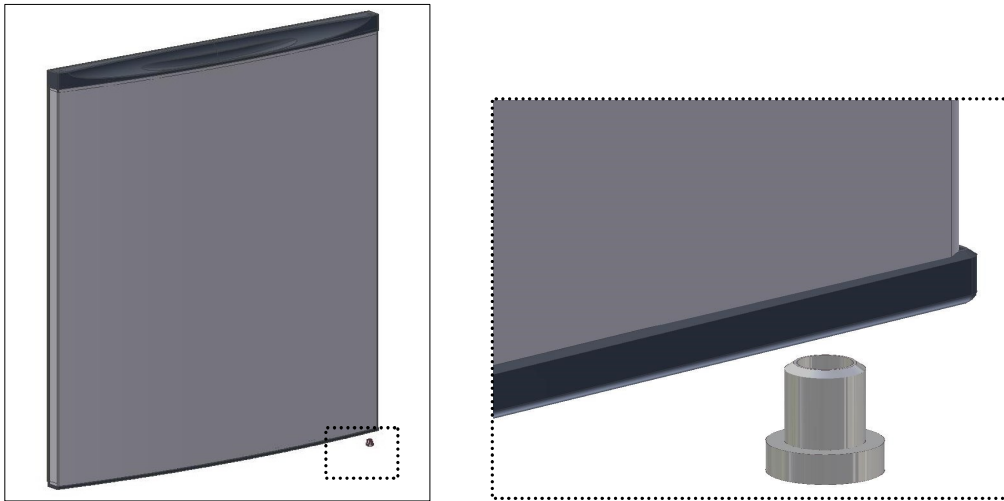

Fig. 8
- Insert the **sleeve** in the interior side of the door (fig. 8);